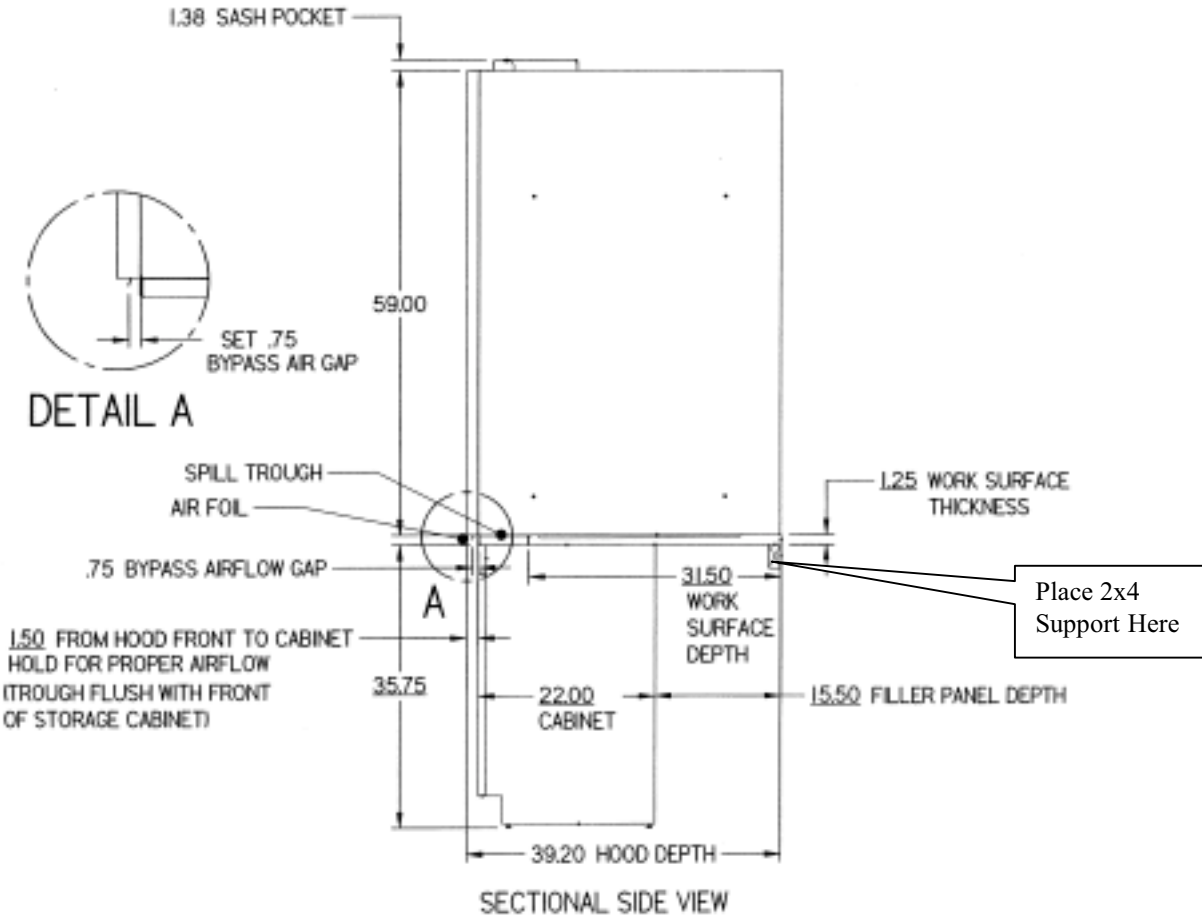

Figure 3-1
When installing the Protector XL HOPEC IV onto a chemically-resistant work surface or benchtop, ensure that the structure can safely support the combined weight of the fume hood and any related equipment. The work surface should be at least as wide as the hood to properly support it. See Figure 3-1. **The work surface is mounted against the back of the secondary spill trough: The base cabinet is located even with the front of the secondary spill trough in order to provide 0.75" spacing under the air foil for proper bypass airflow.**
1. Level the base cabinets and the work surface. Work surface should be placed flush with the back of the fume hood as shown in Figure 3-1.